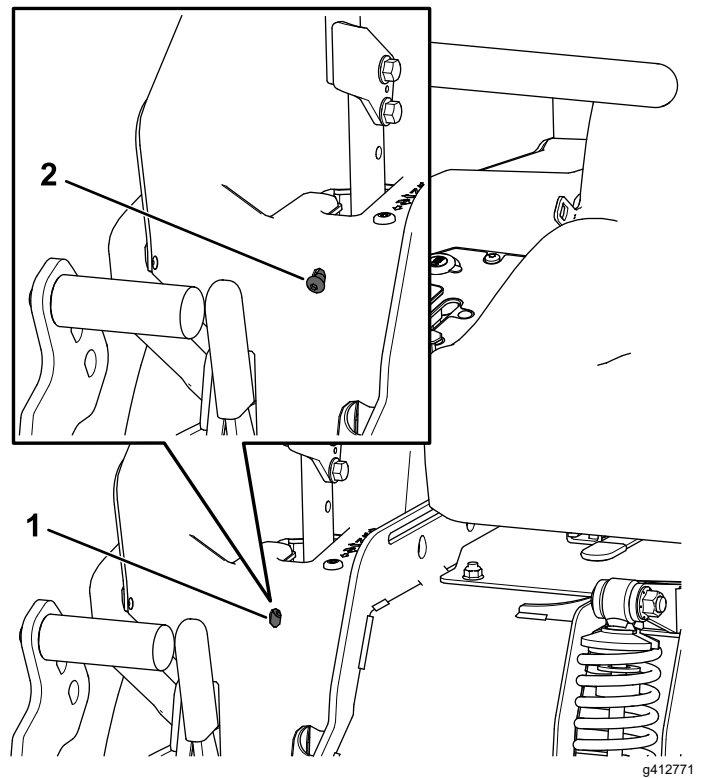

Figure 58
6. If the machine tracks to the right, insert a 3/16 inch hex wrench through the access hole in the left, front cover panel and rotate the tracking screw clockwise or counterclockwise to adjust the travel of the lever (Figure 58).
7. If the machine tracks to the left, insert a 3/16 inch hex wrench through the access hole in the right, front cover panel and rotate the tracking screw clockwise or counterclockwise to adjust the travel of the lever (Figure 58).